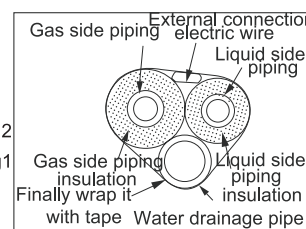

Fig.3
2. Take out the piping from body case, wrap the piping electric wire, and water pipe with tape and put them through the piping hole (As show in Fig. 3)